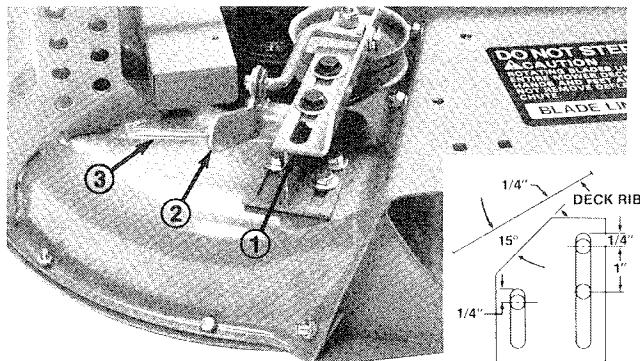

Figure 9
1. Position idler assembly on deck (Fig. 9).
2. Engage idler lever (toward belt) and slide idler pulley firmly into blower belt. To provide for future adjustment, there should be at least  $1/4"$  clearance between front of idler mounting bracket and raised rib in deck (Fig. 9, inset). Mounting bracket should be positioned on flat part of deck. Make sure idler pulley clears spindle pulley and blower and idler lever clears carrier frame when in the engaged position. Mounting bracket should be at approximately  $15^{\circ}$  to deck rib (Fig. 9, inset).
3. Using dimensions shown in (Fig. 9, Inset), locate and drill (3)  $3/8"$  dia. holes in deck.